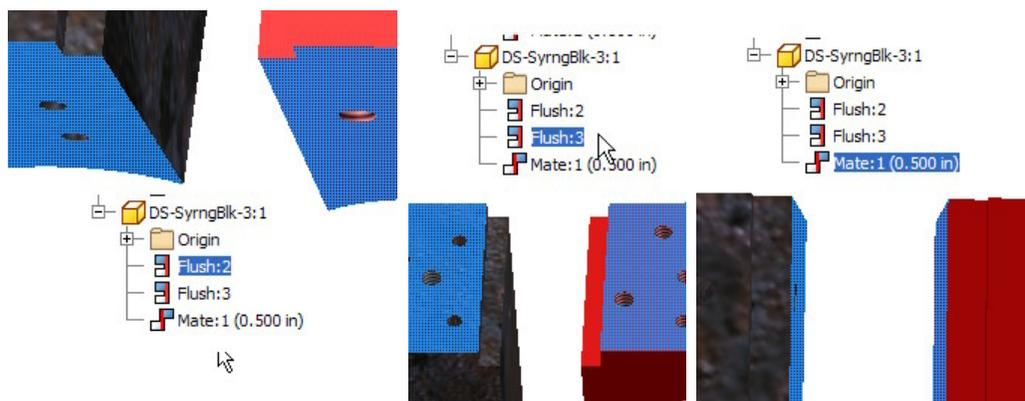

Figure 2 Add constraints
3. Create constraint relationships between the components. See Fig. 2.